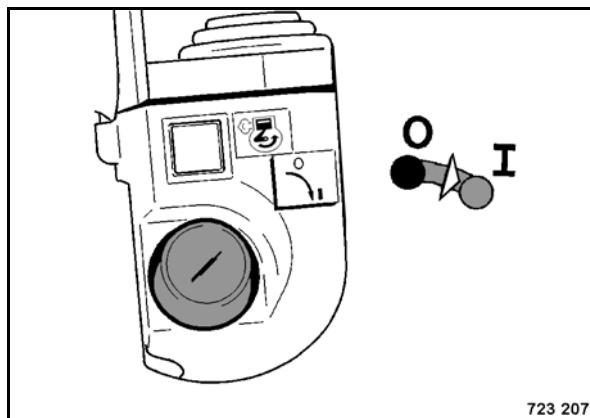

Fig. 79
- Switch on the ignition (Fig. 79).